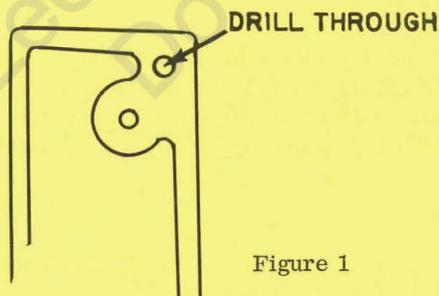

Figure 1
4. Use a number 19 drill to drill through the cover where the upper dowel pin was located. (Figure 1) Support the piece to keep it from tilting.